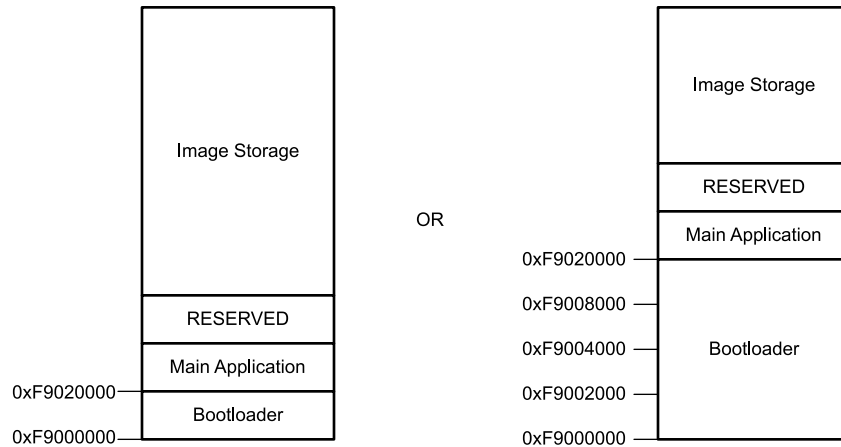

图 8-2. Boot Flash Memory Layout
All applications require both the controller and DMD components for reliable operation. The system uses an external parallel flash memory device loaded with the DLPC900 configuration and support firmware. The external boot flash must contain a minimum of 2 sectors, where the first sector starts at address 0xF9000000 which is the power-up reset start address. The first 128-kilobytes is reserved for the bootloader image and must be in its own sector and can be made up of several smaller contiguous sectors that add up to 128-kilobytes as shown in 图 8-2. The remaining sectors contains the rest of the firmware. The default wait-states is set for a flash device of 120-ns access time. For a faster flash access time, refer to the 节 8.2.1.2.1.4.2 on how to program new wait-state values.
- PM_CSZ_1 - dedicated CS for boot flash device (≤ 16 -megabytes). Refer to the 图 8-2 for the memory layout of the boot flash.